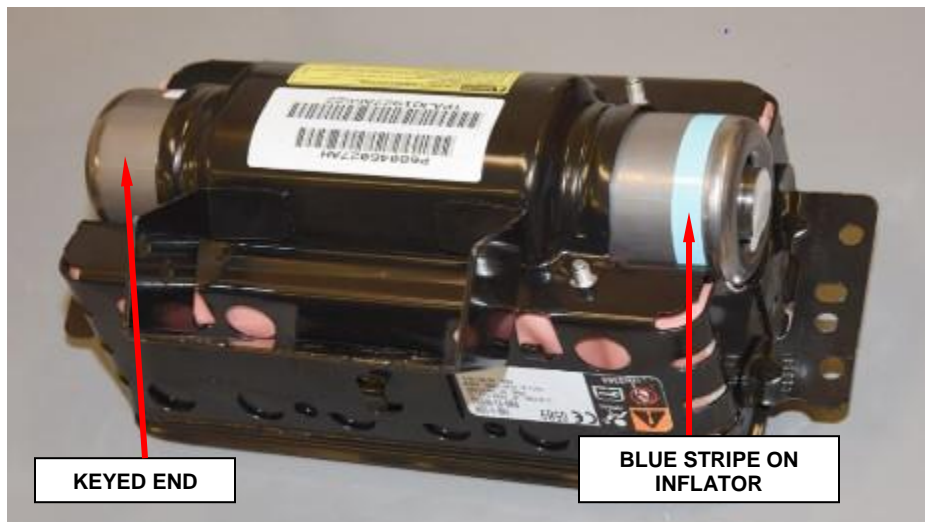

Figure 55 – Insert Inflator (Shown with Cushion Installed)
- h. Slide **new** inflator into housing. The keyed end is inserted first, therefore the blue stripe on the inflator will be located at the open end, as shown (Figure 55).